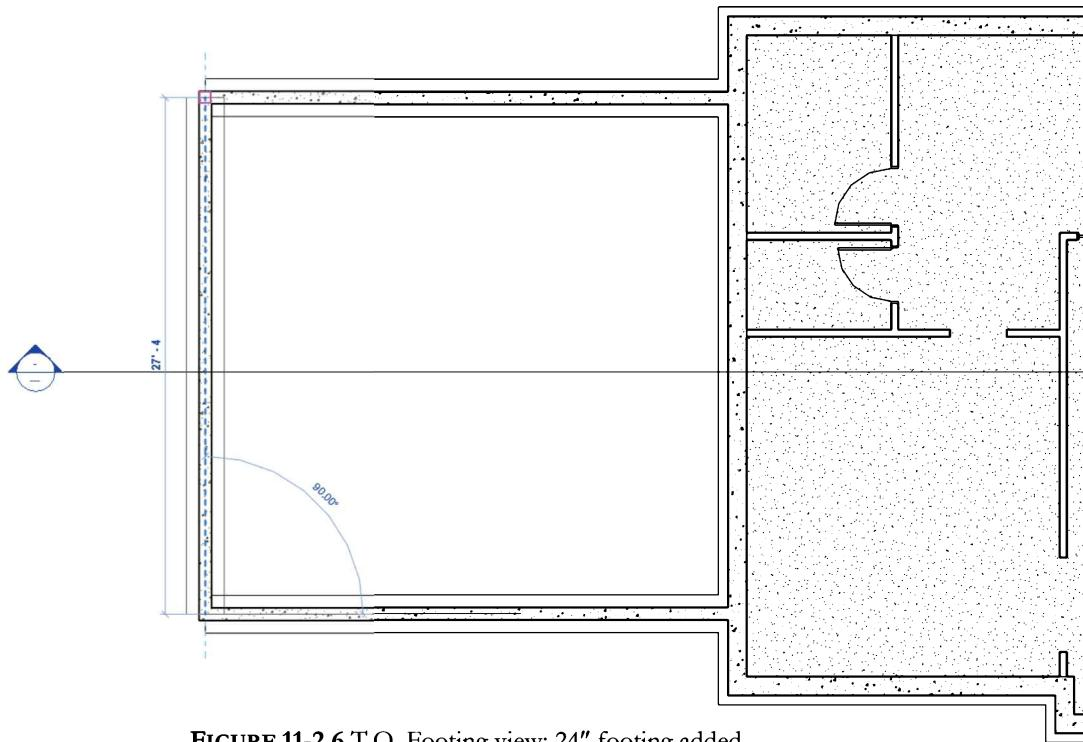

FIGURE 11-2.6 T.O. Footing view; 24" footing added
12. Start picking the intersection of wall centerlines, working around the perimeter of the building; also add a footing below the wall between the garage and the house. You want the 24" footing to be centered on the foundation wall (Figure 11-2.6).